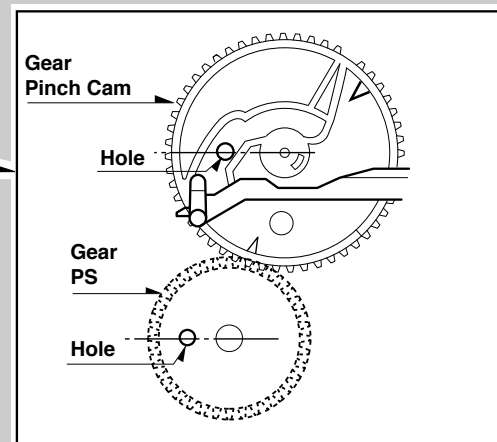

Fig. C-2
- 3) Visually check the alignment of the Pinch Cam gear and PS gear holes, line up with holes in the chassis (figure C-2).